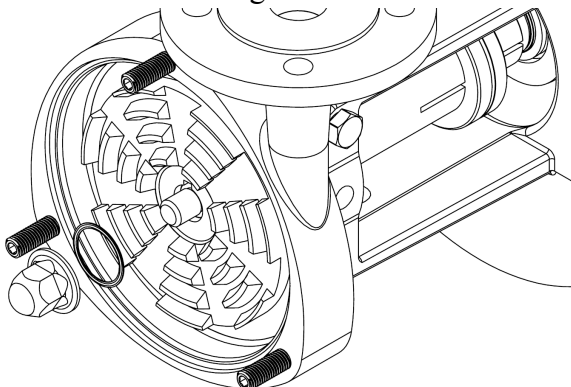

Figure 26
9. Install the impeller nut gasket and impeller nut. See figure 26.